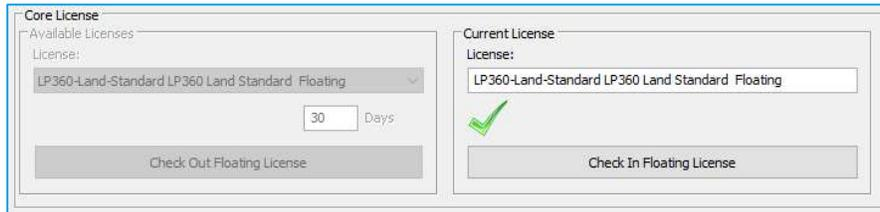

Figure 1 - License Manager
- 6. The *Current License* portion of the dialog should now show the license type with a green checkmark (Figure 1) indicating that the license has been activated.
- The *Current License* portion of the dialog should now show the license type with a green checkmark (Figure 1) indicating that the license has been activated.